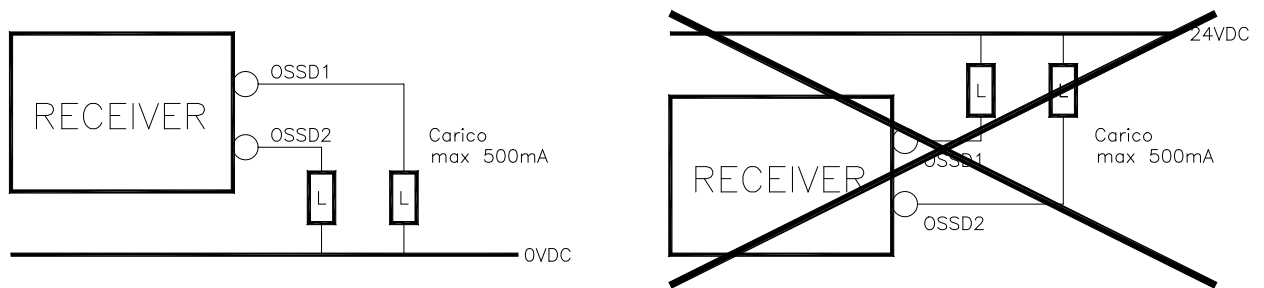

Figure 26
**In the protected area clear condition, the Receiver supplies a voltage of 24VDC on both outputs. The required load must therefore be connected between the output terminals and the 0VDC (Figure 26).**